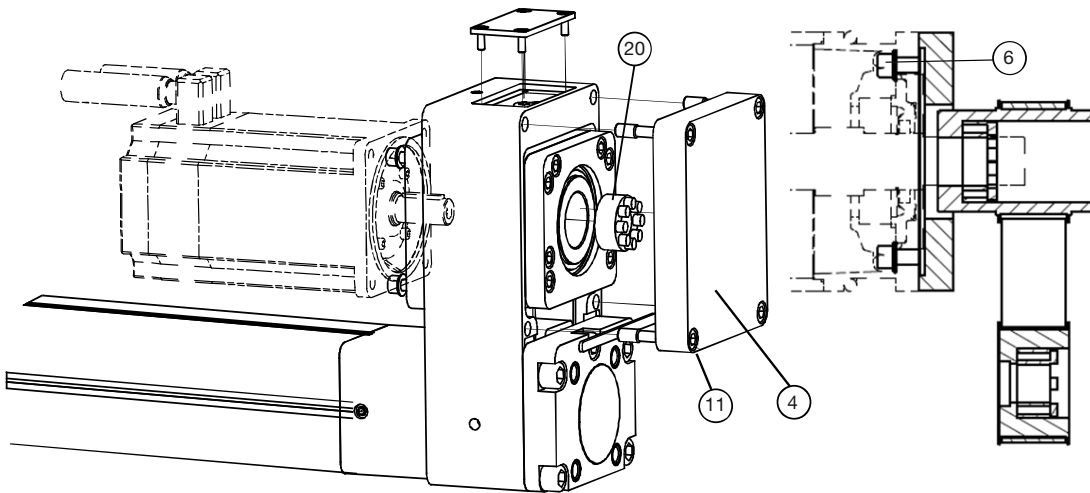
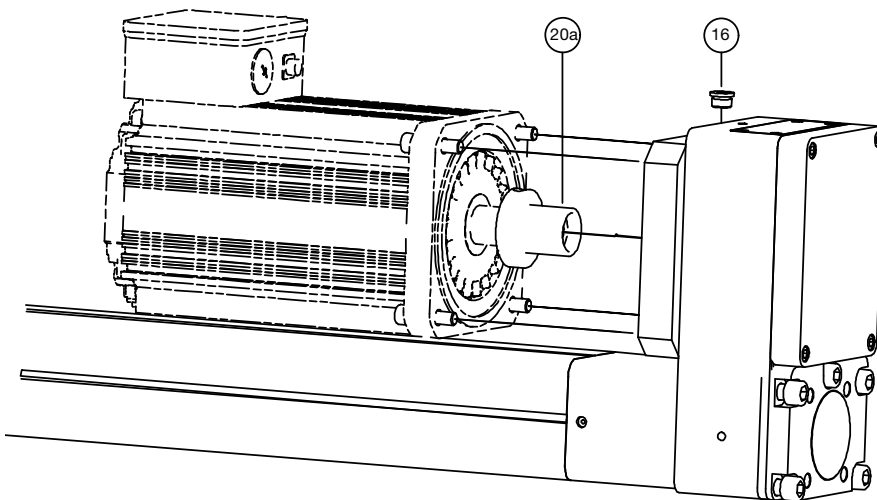

Figure 26: ETH1xx: Motor/ gear assembly parallel
Figure 27: ETH1xx: Motor/ gear assembly parallel with K1M option
- ◆ Dismantle lid (please refer to Figure 26 Pos.4) and screws (please refer to Figure 27 Pos.11).
- ◆ Loosen all tensioning screws of the clamping bushing (see Figure 26 Pos. 20) (approx. 3 mm).
with K1M drive option: loosen tensioning element (please refer to Figure 27 Pos.20a) via flange sided mounting hole. For this, first loosen the lock screw (please refer to Figure 27 Pos. 16) and then the adjusting screw of the tensioning element.
- ◆ Loosen motor fixing screws (please refer to Figure 26 Pos.6).
- ◆ Remove clamping unit (please refer to Figure 26 Pos.20a & Figure 27 Pos 20a).
- ◆ Dismantle lid (please refer to Figure 26 Pos.4) and screws (please refer to Figure 26 Pos.11).
- ◆ Loosen all tensioning screws of the clamping bushing (see Figure 26 Pos. 20) (approx. 3mm) and remove them from the hollow shaft.
With K1M drive option: loosen tensioning element (please refer to Figure 27 Pos.20a) via flange sided mounting hole, do not remove tension unit. For this, first loosen the lock screw (please refer to Figure 27 Pos. 16) and then the adjusting screw of the tensioning element.
with K1M drive option: insert tensioning element ((please refer to Figure 27 Pos.20) in the hollow shaft on the motor side and push up to the exterior stop. Adjust tensioning element so that the adjusting screw can be tightened via flange sided mounting holes.
- ◆ Insert tension bushing (please refer to Figure 26 Pos.20) into hollow shaft and slide it up to the inner stop (not with K1M drive option).
- ◆ Afterwards tighten tensioning screws of the clamping bushing (please refer to Figure 26 Pos.20, please refer to Figure 27 Pos.20a) crosswise step by step (in three turns with 1/3, 2/3 and full tightening torque), until the screw tightening torque (please refer to Table 2) is reached.
- ◆ Mount lid (please refer to Figure 26 Pos.4) and screws (please refer to Figure 26 Pos.11).